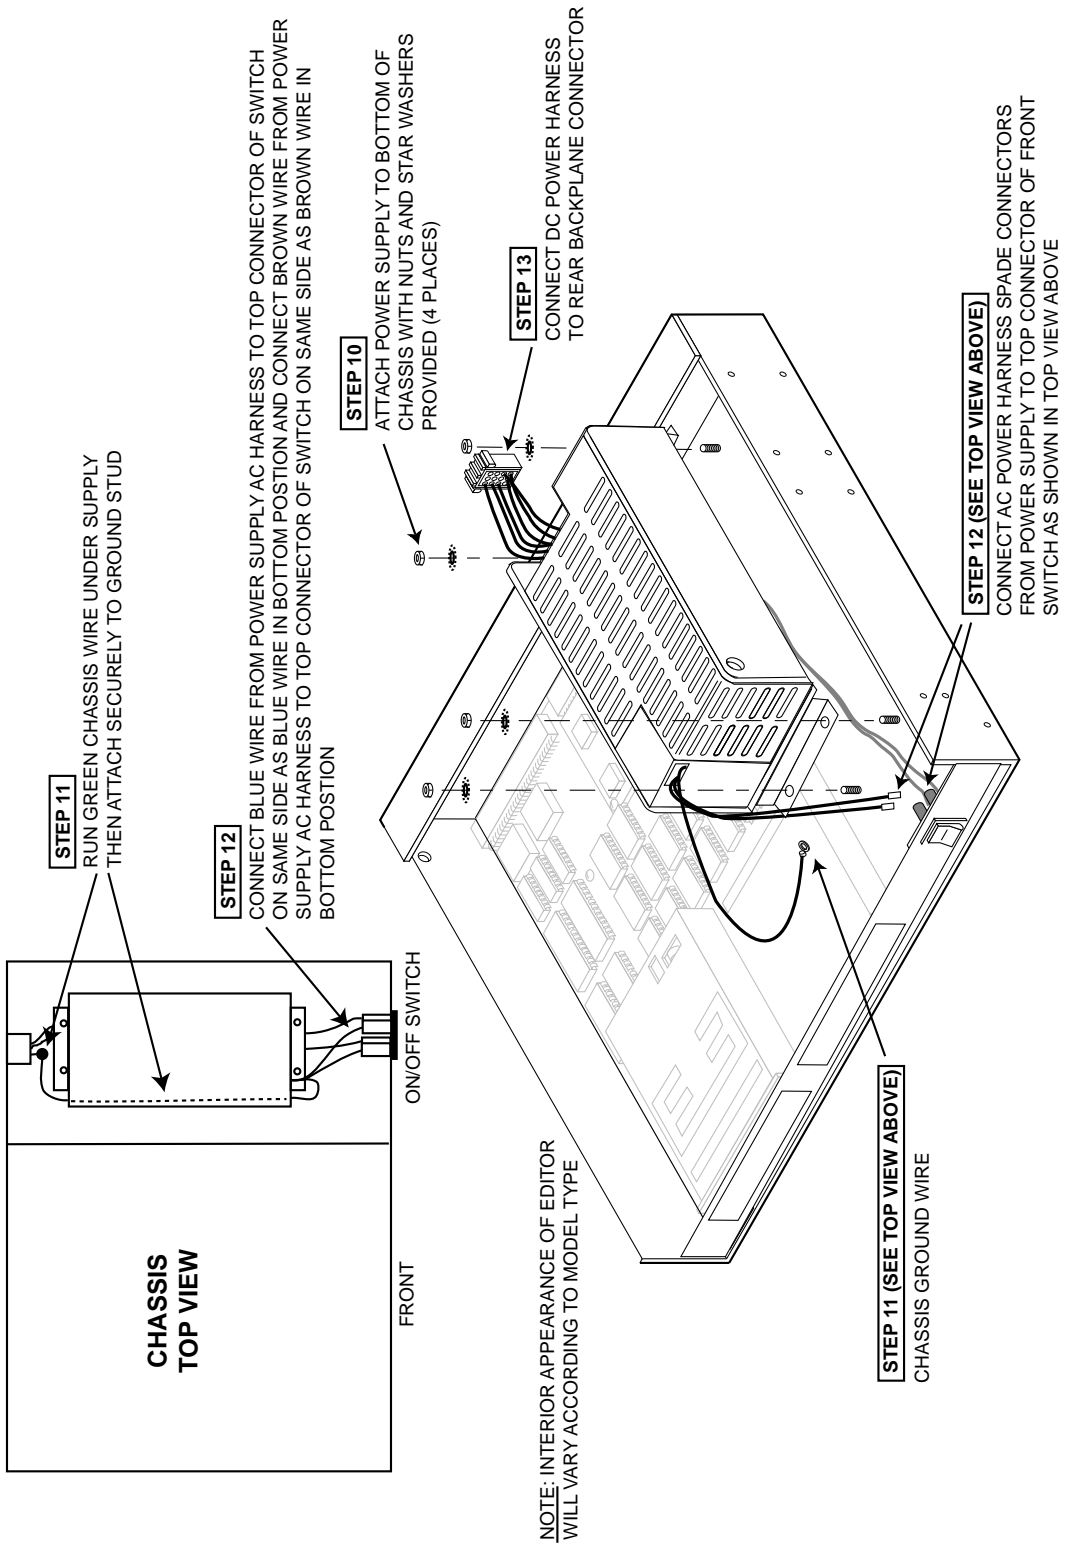

Figure 1
10. Install the new power supply by aligning the four mounting holes in the power supply metal brackets over the four studs on the chassis bottom as illustrated in Figure 1. Secure the supply to the bottom of the chassis with the four nuts (NA4085-00) and star washers (WA2015-00) provided.